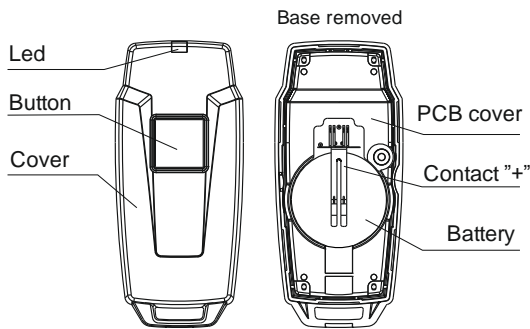

Figure 3
5.2.1 Structurally, the TRC is made in the form of a key fob, consisting of a cover (front side) and a base (Figure 3).